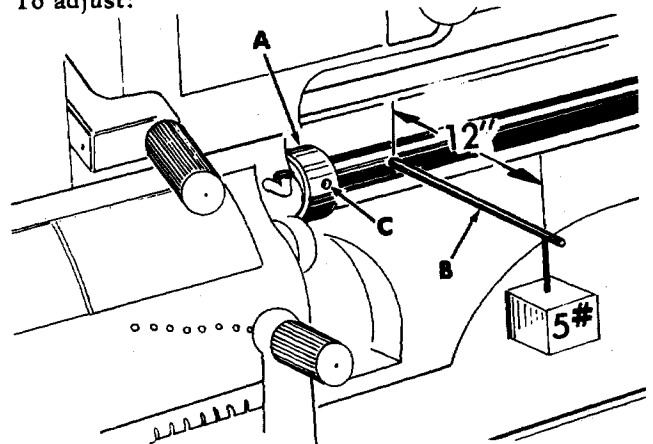

Figure 19
1. Insert  $\frac{1}{4}$ " rod (B, fig. 19) in the hole in lead screw near clutch.
3. While holding quadrant gears, insert  $\frac{1}{8}$ " rod in hole (C) and tighten collar (A) until clutch is properly adjusted.